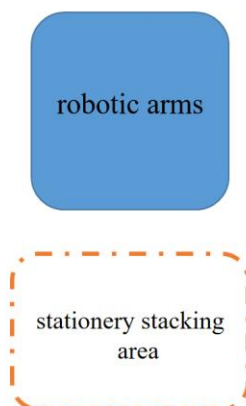

Figure 4.10 Image recognition and segmentation experiment
(1) Prepare Hardware
Step 1: Design the experimental map, as shown in Figure 4.10, and set the equipment.